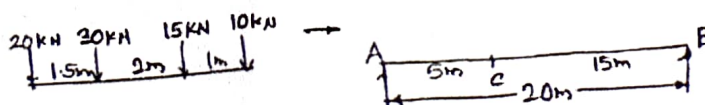

Fig.Q4
- 4 A simply supported beam of span 20m is subjected to a set of loads of magnitude of 20 kN, 30 kN, 15 kN and 10 kN spaced as shown with 10 kN leading. Determine the maximum BM at a section 5m from the left end and also the absolute maximum BM developed in the beam. [Refer Fig.Q4]